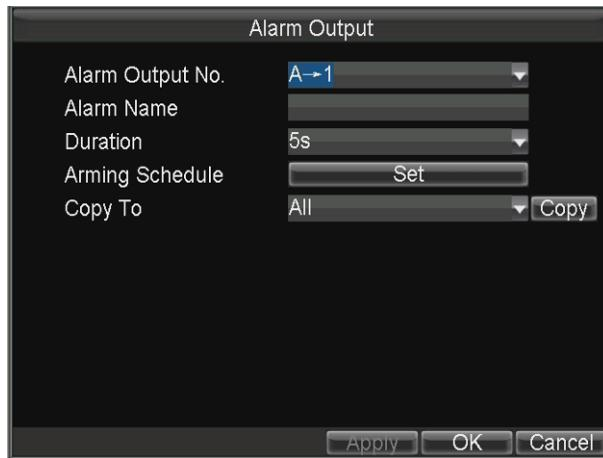

Figure 7.6 Alarm Output Settings Interface
1. Enter the Alarm Output Settings Interface, as shown in Figure 7.6.